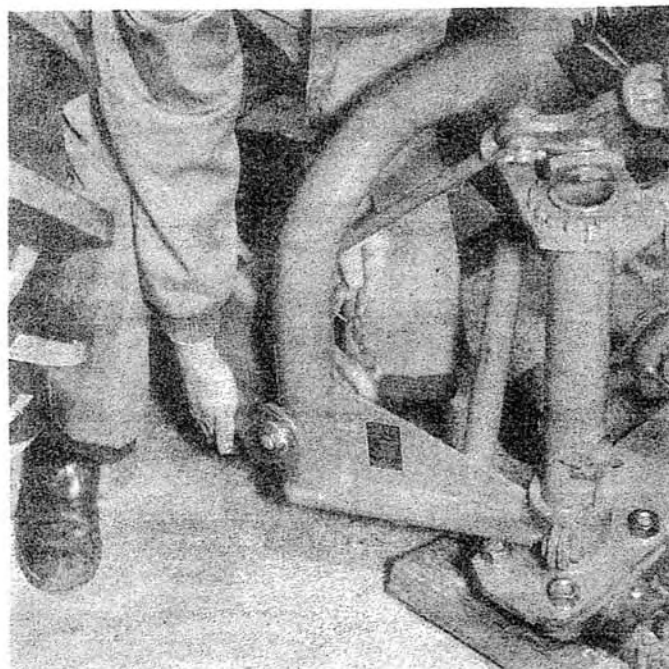

Fig. 43 - Detaching Left Link
The tractor should be driven to a clear suitable area, and the mower lowered onto a supporting block; this block should be just high enough to hold the mower "square" when detached from the tractor, as in Fig. 43.
3. Remove linch pin, disconnect left link (see Fig. 43).